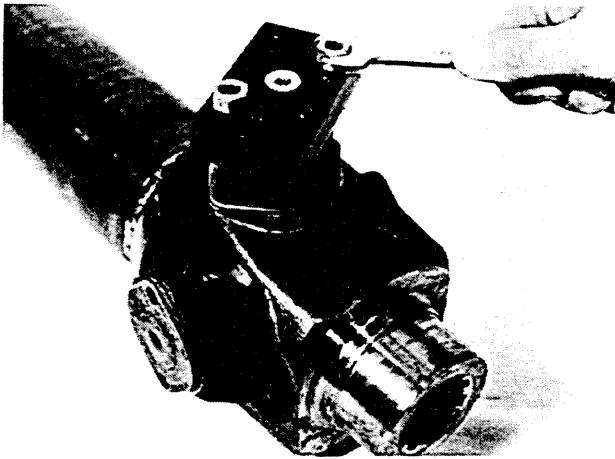

FIGURE 2
Attach bridge plate (8) to the support legs with two 3/8"-16 UNC hex nuts provided. Note: The hole spacing in the bridge plate is arranged to accommodate the hole spacing in the various models of u-joints. Make sure holes selected in bridge plate are exactly opposite one another. Apply grease to detent in bridge plate before using puller, also, see decal in box cover for care and lubrication of puller's forcing screw. (See Figure 2)